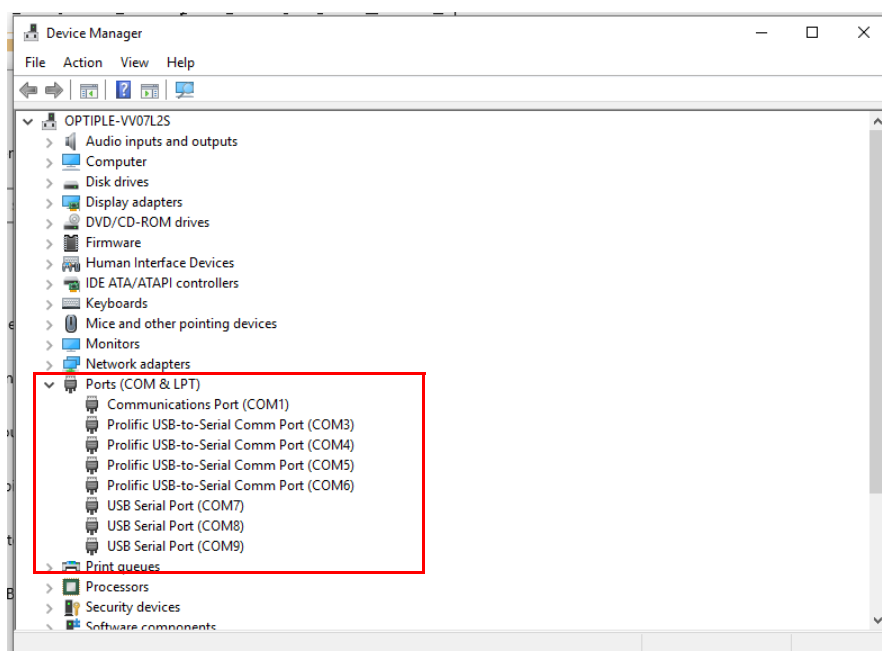
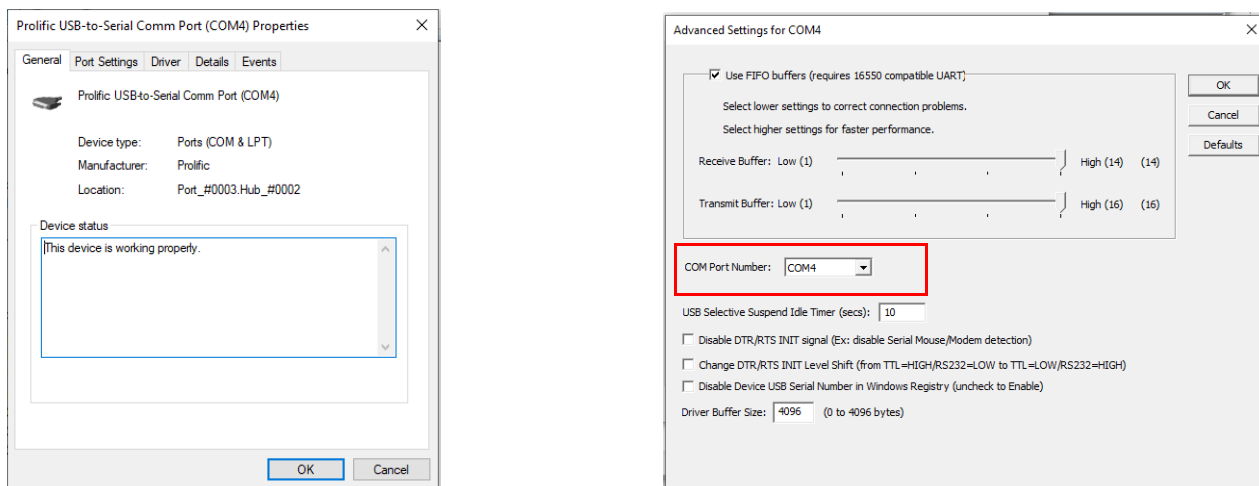

Figure 5-1. Device Manager with COM ports connected to the PC
Figure 5-2. Example of COM Port Properties
2. Expand the **Ports (COM & LPT)** section, see Figure 5-2 to show all available COM ports. COM 1 is the internal COM port of the PC. Figure 5-1 shows the Prolific 4-port Serial COM to USB adapter (here: COM 3, 4, 5, 6) and three Single COM Serial to USB adapters (here: COM 7, 8, 9). This will be the numbering if COM Serial to USB converters are connected to the computer for the first time.
3. A right mouse click on one COM port (-> **Properties**) opens the configuration window of this port, see Figure 5-2.
- In the **General** tab, the port location is shown, for example for LC IsoLink. **Figure 5-2**, left figure, shows the COM Port Properties of Serial COM port 4 showing the location of the COM port on 4-port Serial COM to USB converter.
- In the **Port Settings** tab, the **Advanced..** view will show the drop-down menu for the port number. The change of the port number will affect the order of the hub location (see changes for LC IsoLink later in this chapter). **Figure 5-2**, right figure, shows the **Port Settings > Advanced Settings** with the COM Port Number.
- a. If the PC is connected to the Internet, the Device Manager will automatically detect the Serial COM to USB adapters (see Figure 5-1):